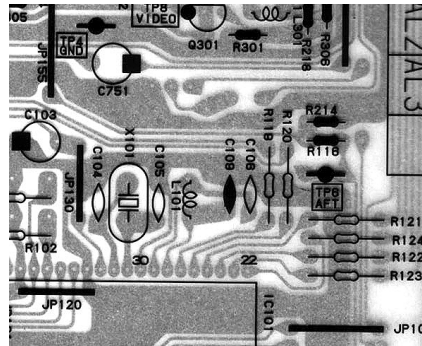

Fig. 1
2. Connect wire (+) of DC Digital Voltmeter to TP6 and wire (-) to TP4. (Fig. 1)